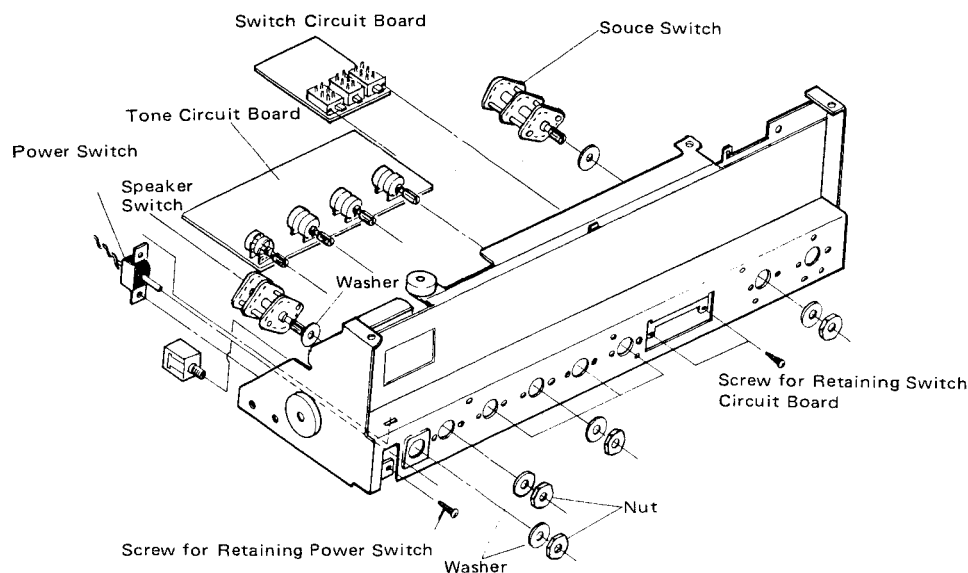

Fig. 4
1. Remove front panel as inscribed before. So power, speaker and source switches, and headphone jack can be simply replaced as illustrated in Fig. 4.
2. To replace other controls, release signal cords to tone circuit board or switch circuit board from clamps and remove circuit boards from front bracket. Then replace required parts. (see Fig. 4)